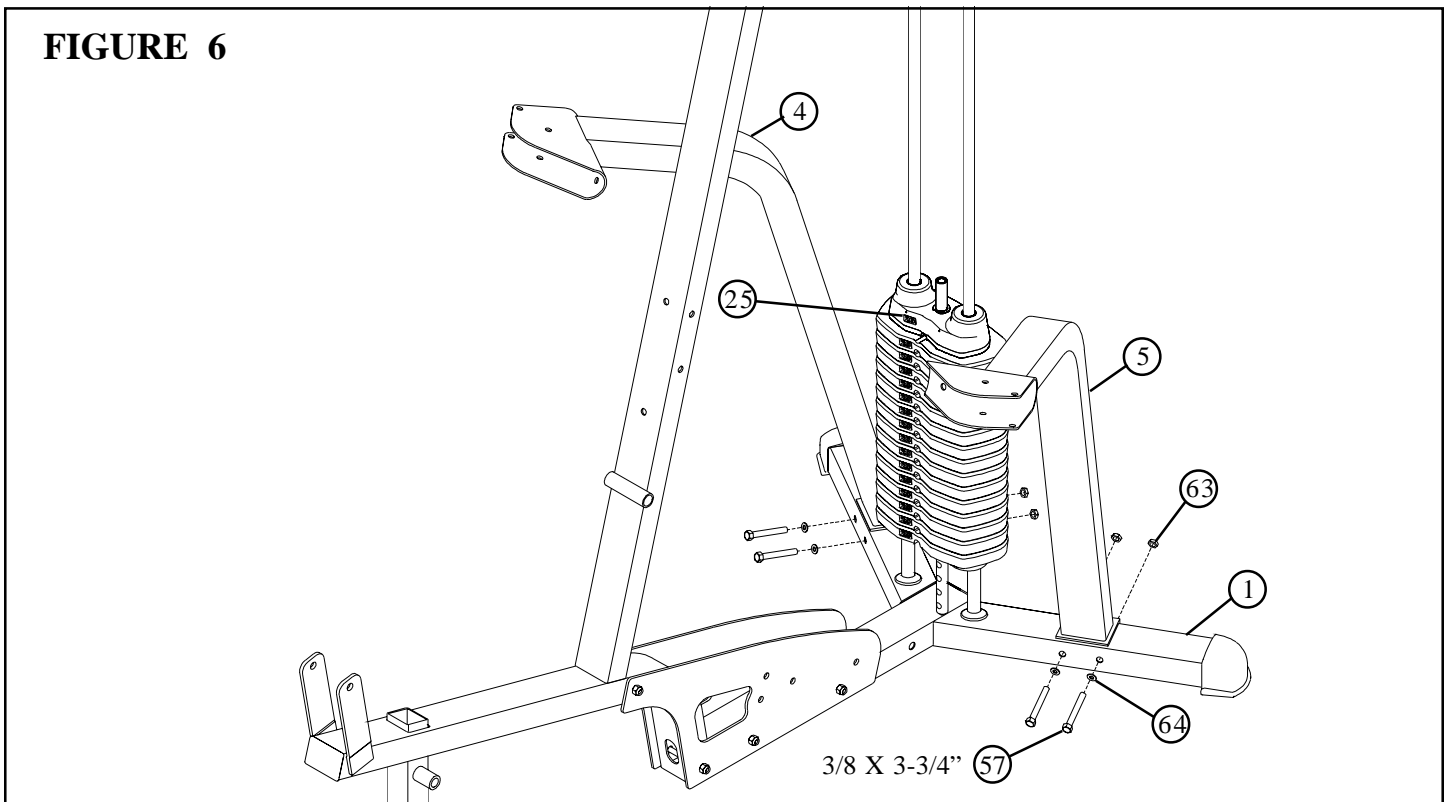

FIGURE 6
- **LOOSELY** assemble the RIGHT and LEFT ARM SUPPORTS (4 & 5) to the BASE (1) using four 3/8 X 3-3/4" BOLTS (57), four 3/8" FLAT WASHERS (64), and four 3/8" LOCK NUTS (63). See FIGURE 6.
- Apply WEIGHT STACK LABELS (25) to the WEIGHT PLATES (21) starting on the HEAD PLATE as shown in FIGURE 6.